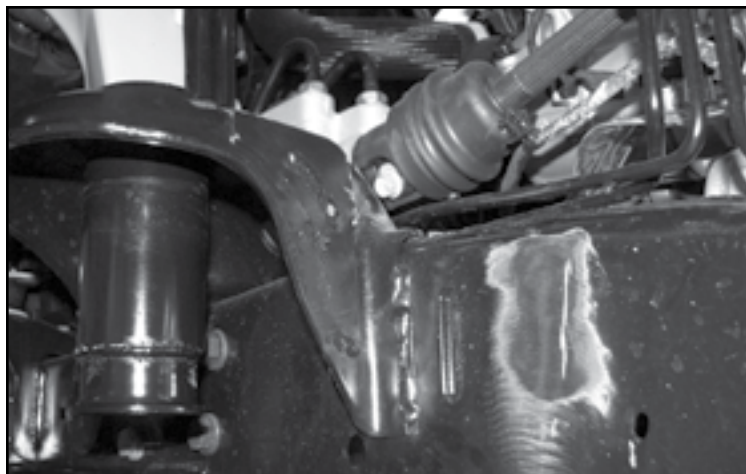

FIGURE 7 - STEP 8
8. Using a cut off wheel and/or saw zaw. Cut the tower bracket off, then sand the frame to a smooth finish. **SEE FIGURE 7**